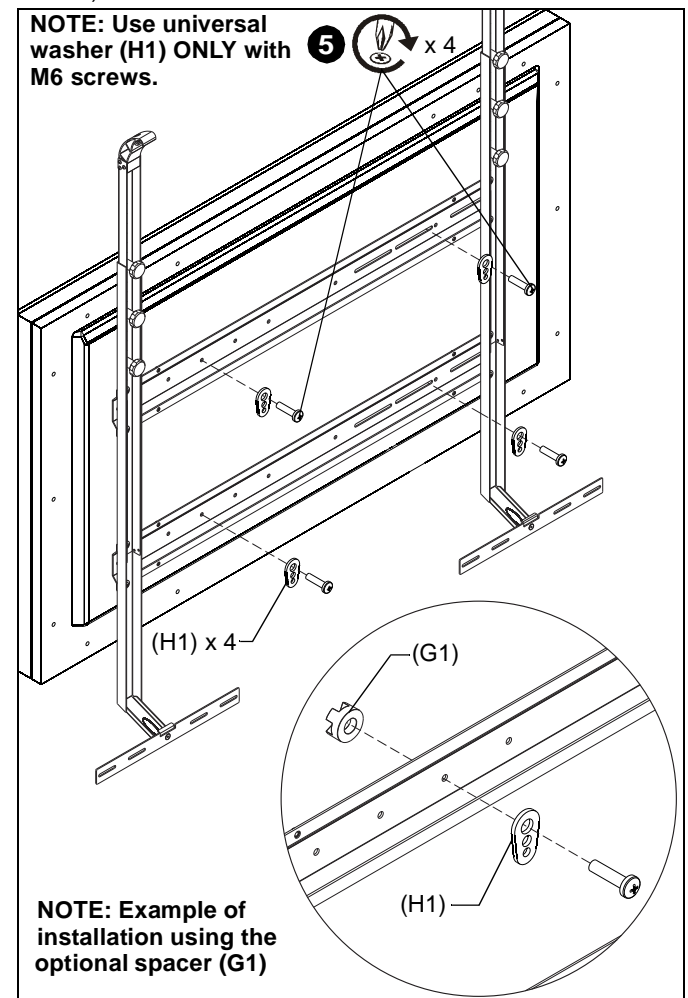

Figure 8
- Attach flat panel to the uprights/cross brackets assembly through the cross brackets using selected hardware. (See Figure 8)